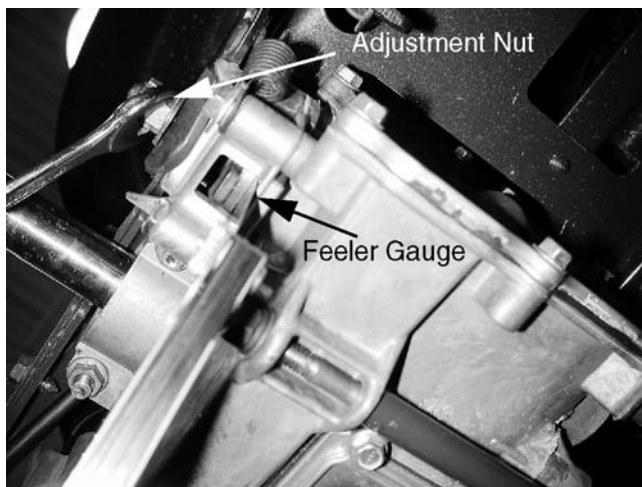

Figure 11-36
12. Loosen the nut slightly, and insert a .020" feeler gauge between the brake rotor and the brake pad. See Figure 11-36.